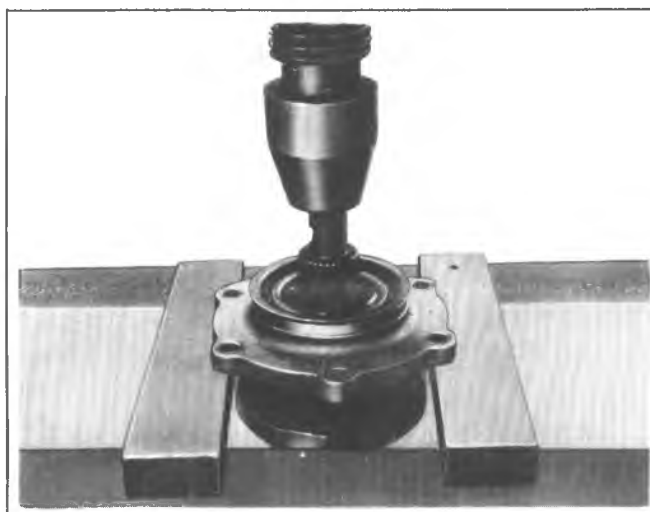

Fig. 10E-Pressing Drive Pinion from Bearing Retainer
5. Support the bearing retainer as shown in figure 10E and press out the drive pinion. Do not allow drive pinion to fall onto the floor.